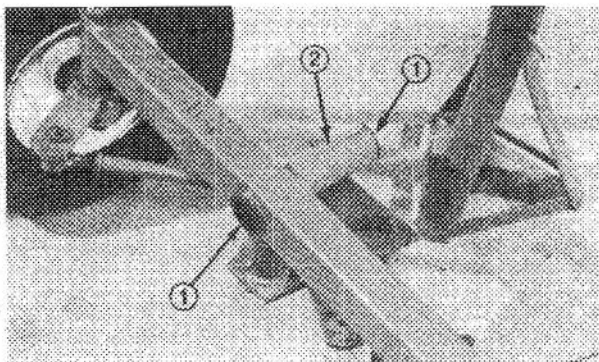

Figure 43
6. Using pin punch and hammer, drive both bushings out of axle (Fig. 43). Clean inside of axle to remove dirt and foreign matter.
7. Notice groove on inside of new bushing. When it is installed, open end of groove must be to the outside of axle pivot tube. Apply grease to the inside and outside of the new bushings. Use an arbor press to drive bushings into the top and bottom of the axle pivot tube. Bushings must be flush with axle tube (Fig. 43).